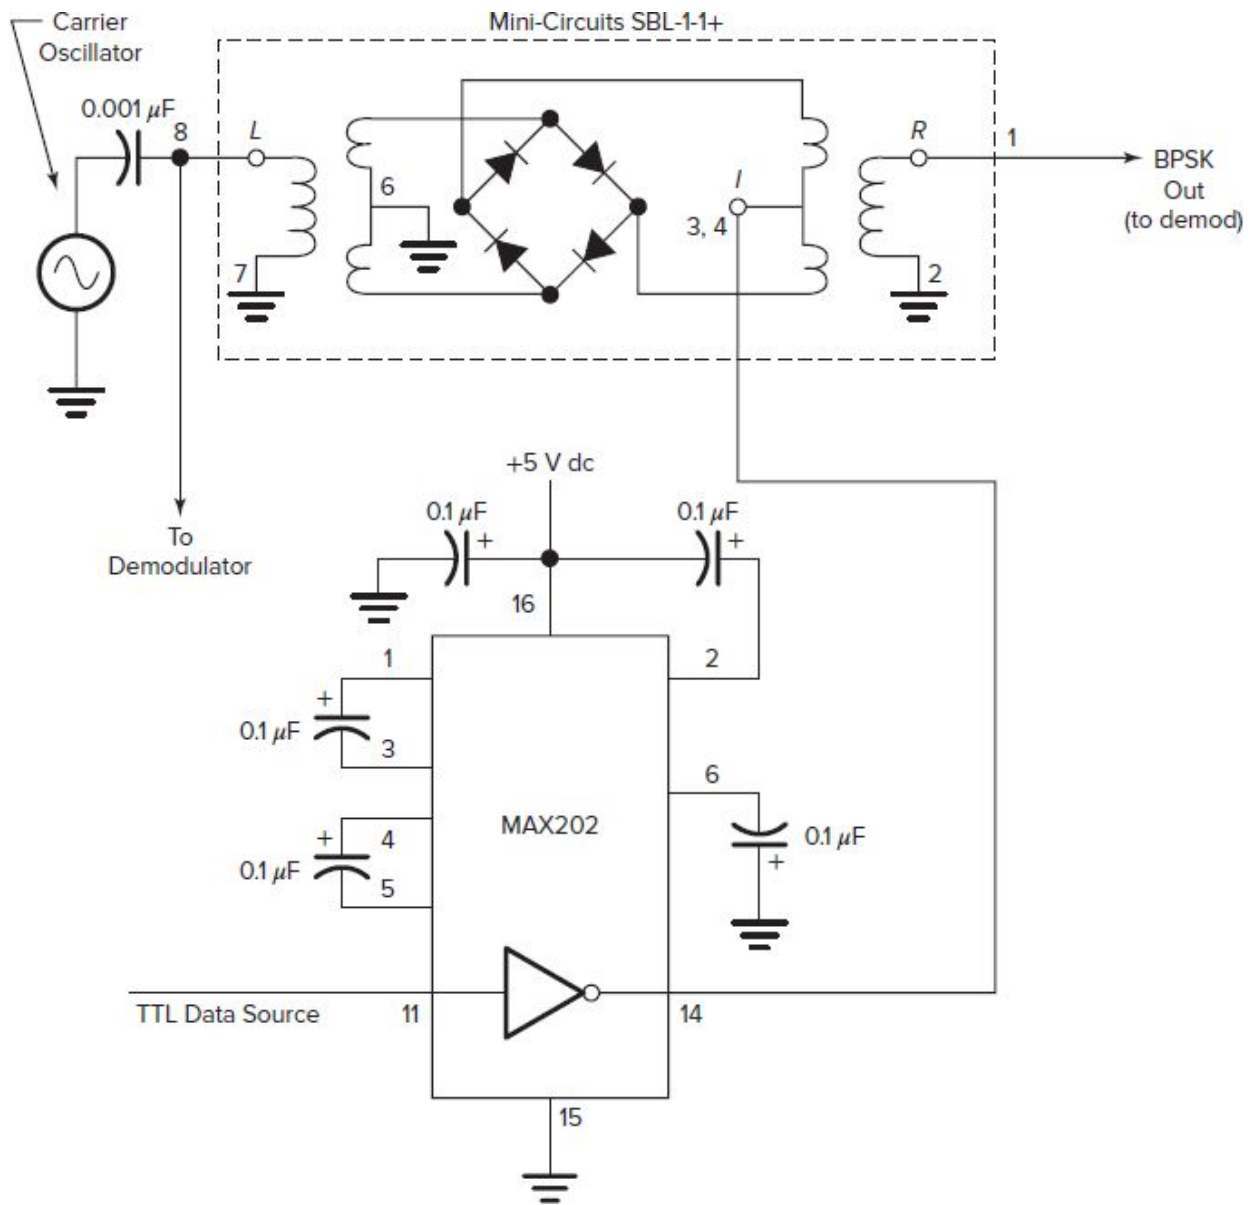

Fig. 10-8 BPSK modulator.
1. Connect the circuit in Fig. 10-8. Note the bottom view of the SBL-1-1+ in Fig. 10-7, which shows the pin numbers that correspond to the numbers and connections shown in the schematic. Were the SBL-1-1+ first as shown in Fig. 10-7, then connect it as shown in Fig. 10-8. You will use a function